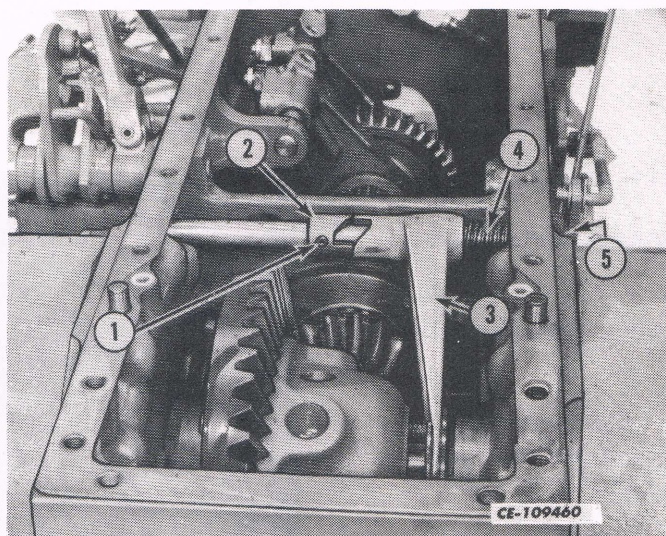

Fig. 5
7. Tap out the roll pin (1) in the differential lock shaft cam (2). See Fig. 5.
10. Remove the cam (2), fork (3) and actuating spring (4). See Fig. 5.